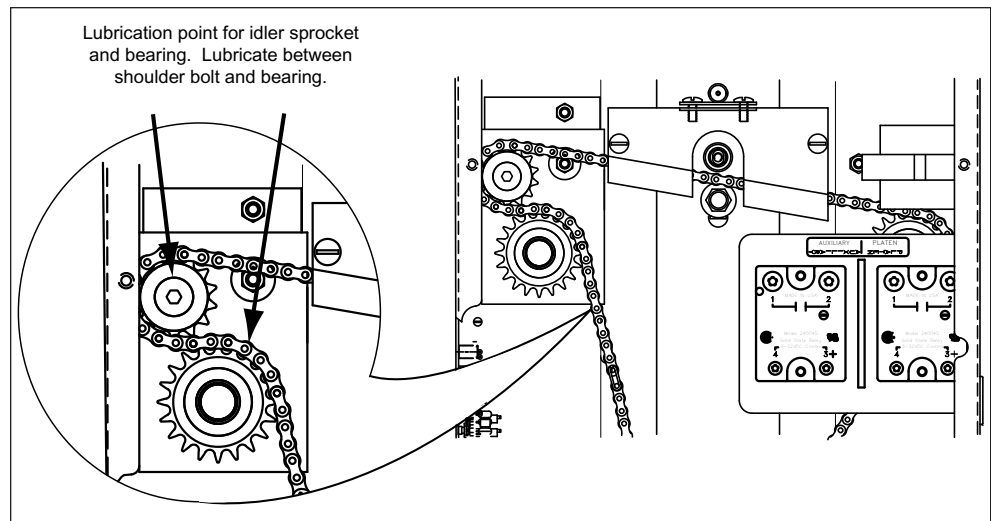

Figure 6. Lubricating the Drive Chain and Idler Sprocket Bearing
3. Using *Lubit 8 (HCS)*, gently squeeze the bottom of the tube and lightly lubricate all of the visible links of the drive chain (Figure 6).